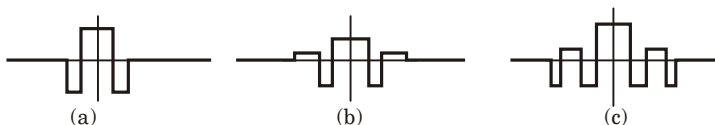

Fig. 2.19.1. Dispersion flattened fiber refractive index profiles: (a) double clad fiber (W fiber); (b) triple clad fiber; (c) quadruple clad fiber.
- To modify the dispersion characteristics of single mode fibers in order to give two wavelengths of zero dispersion. A typical W fiber index profile (double clad) is shown in Fig. 2.19.1(a).